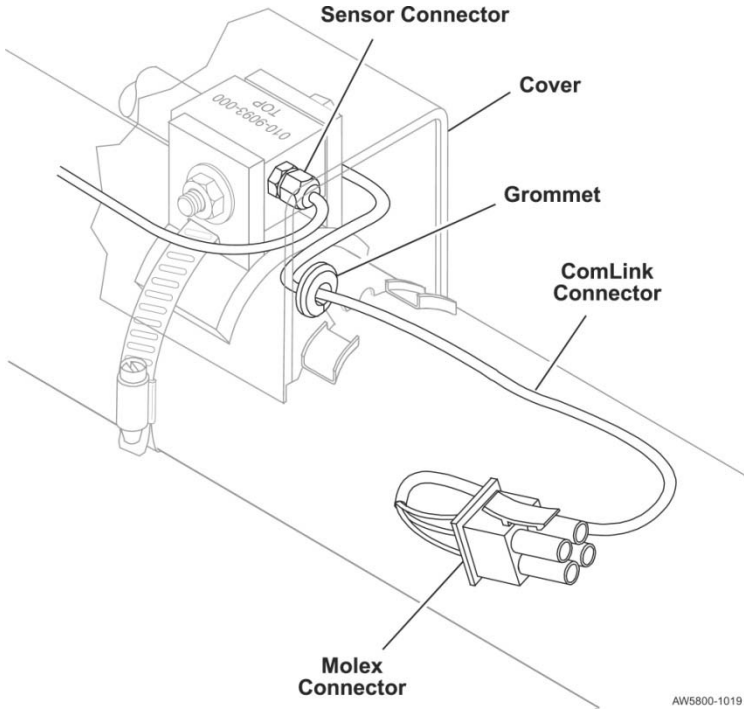

Figure 37. Placing the Cable and Grommet into Cover
- C. Slide the sensor cable/grommet combination into the cover hole with the Molex connector of the sensor cable on the outside of the cover. See Figure 37.